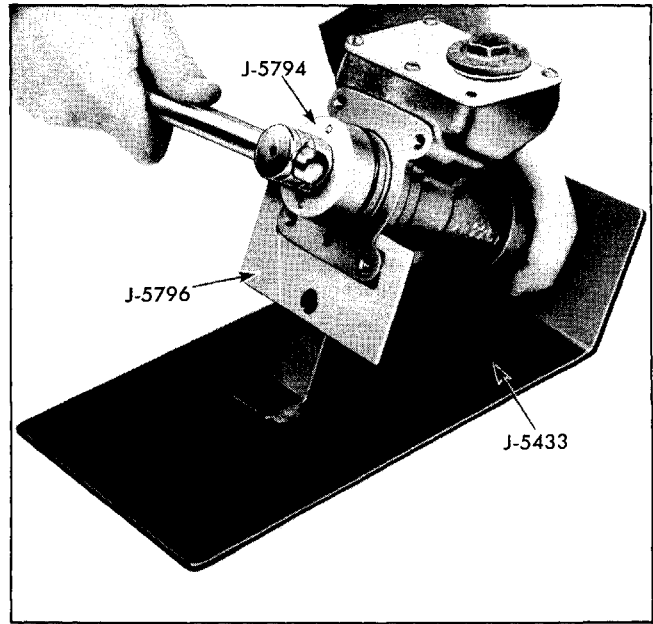

Fig. 5-47 Removing or Replacing Cylinder Plug Assembly
1. Clamp master cylinder in fixture J-5433 with adapter J-5796 or in a vise in vertical position and remove cylinder plug assembly using special spanner wrench J-5794 (Fig. 5-47).